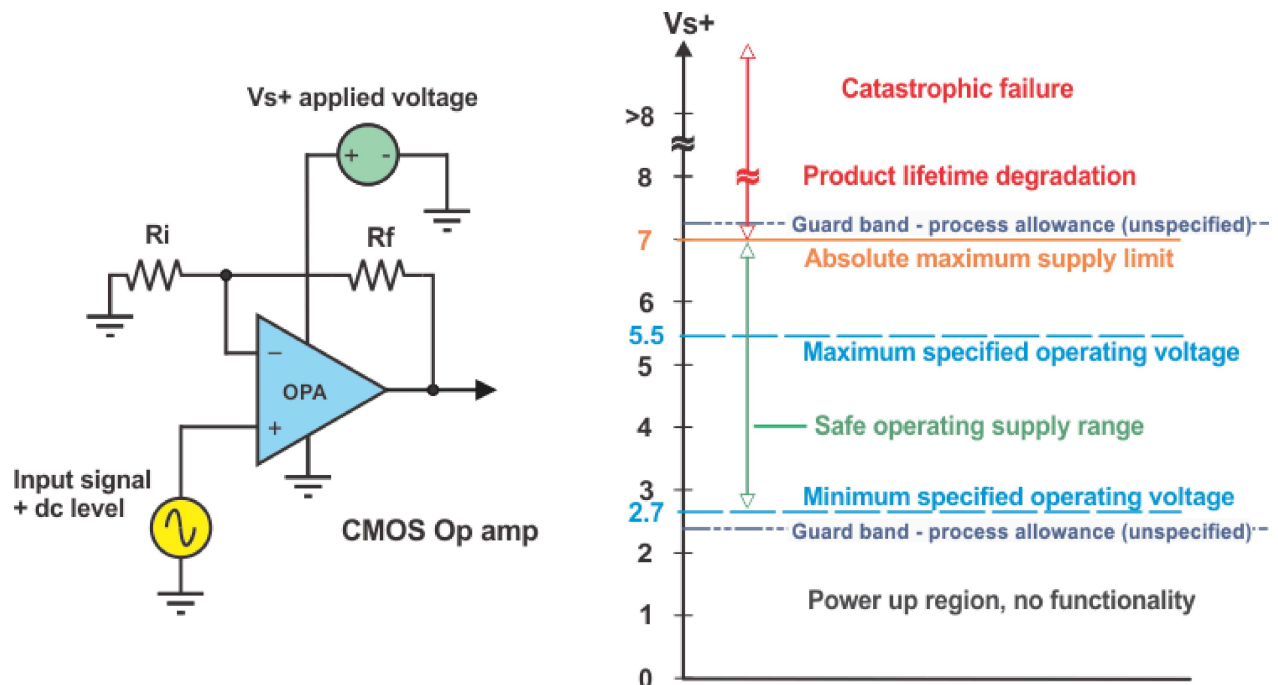

Figure 1: CMOS op amp power supply regions
Figure 1 illustrates an example of an op amp power-supply range that includes a region where safe operation is assured, and unsafe regions where its lifetime may be reduced or cut very short. The op amp in this case is classified as a low voltage op amp, fabricated on a complementary metal oxide silicon (CMOS) semiconductor process. The amplifier's supply increases on the vertical scale from 0V to a level beyond its absolute maximum voltage, where catastrophic failure is inevitable.
- As odd as it might seem, I have encountered instances where customers had powered their amplifier circuit with too low of a supply voltage, yet they observed mostly normal operation from the circuit. This supply condition falls somewhere in the power-up region of Figure 1. In my next post, I'll examine amplifier operation at this other end of the supply-voltage range.
Not forgetting the graph in figure 1 should also extend to negative voltages, plug in a LM324 (or pretty much any quad) backwards, and they get very warm, and the supply gets dragged down to $\sim 0.7\text{V}$, in many cases the opamp still works afterwards. (But I always scrap them anyway).